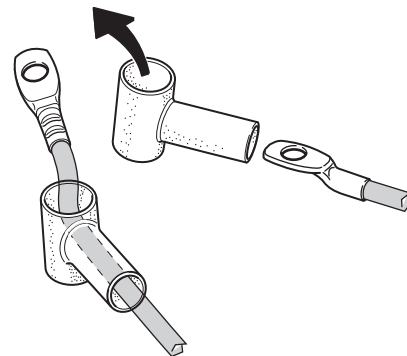

Fig. 49
- ▶ Feed cable connections through protective rubber caps (Fig. 49).